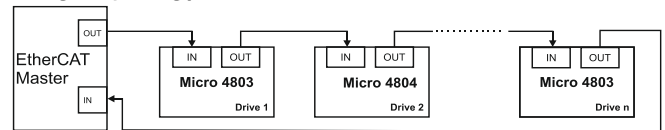

Figure 3-73 EtherCAT network ring topology
- Figure 3-73 for a visual representation of the ring topology.